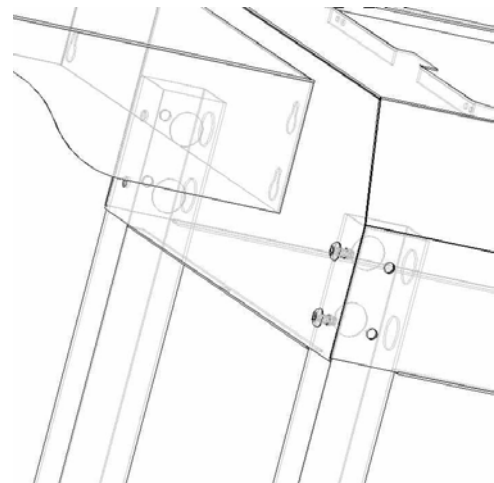

FIGURE 7
- 2- Using a 5/32" male hex driver, loosen, but do not remove, the four (4) leg mounting screws, from the top left-hand side of the cart chassis.
- 3- Carefully align the " keyholes " in the shelf, with and over the four (4) leg-mounting screws. Make sure the washers are not between the shelf and the cart chassis. Push the shelf down into position.
- 4- Re-tighten the four (4) leg-mounting screws. (SEE FIGURE 7)